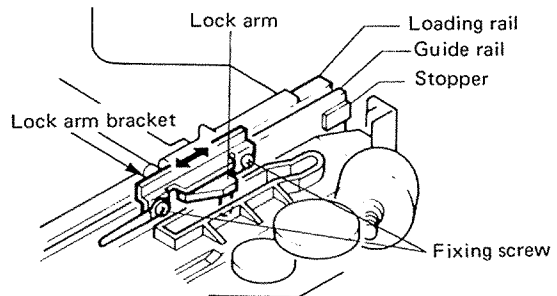

Fig. 9
**5. How to mount LOCK ARM. (Fig. 9, 10, 11)**